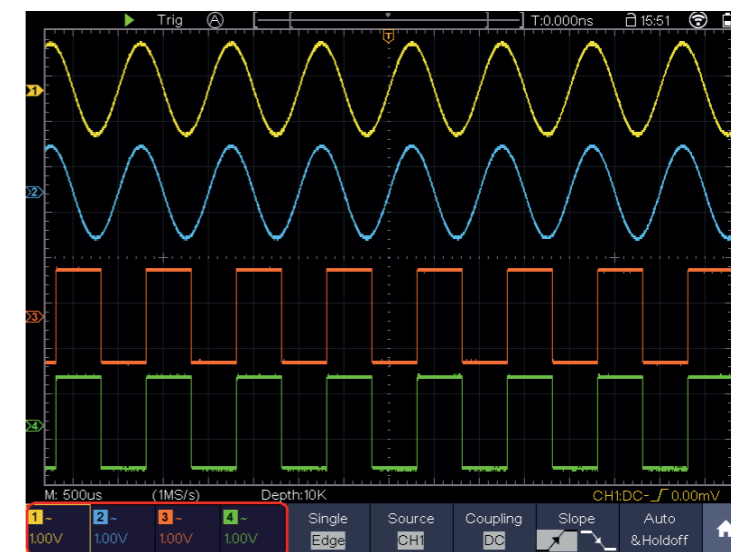

Figure 4-7 Information about Vertical Scale
1. The **Vertical Position** knob is used to adjust the vertical positions of the selected waveforms. The analytic resolution of this control knob changes with the vertical division. When the **Vertical Position** knob is rotated, the pointer of the earth datum point of the selected channel is directed to move up and down following the waveform, and the position message at the center of the screen would change accordingly (see *Figure 4-7*).
2. The **Vertical Scale** knob is used to regulate the vertical resolution of the selected wave forms. The sensitivity of the vertical division steps as 1-2-5. The vertical scale is displayed at the left bottom corner of the screen (see *Figure 4-7*).